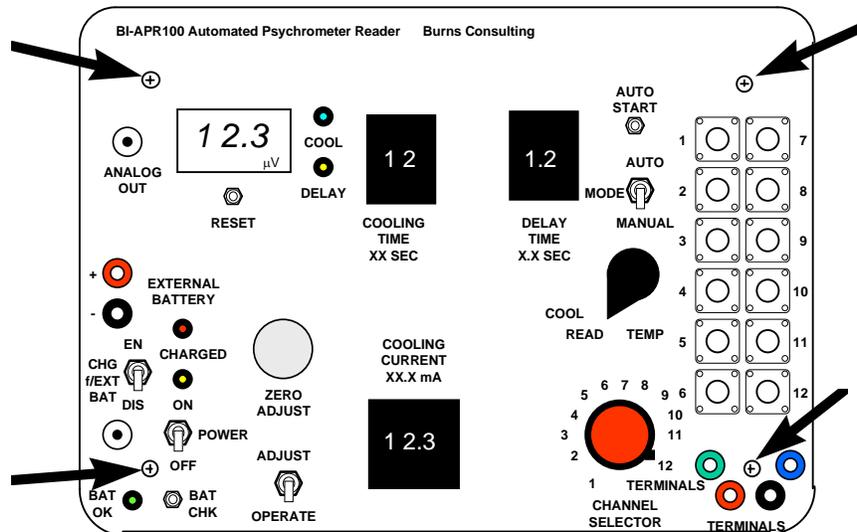

Figure VI.2 - Screws to be removed to access internal battery.
Remove the four 6-32 screws indicated by the arrows in Figure VI.2. Gently lift the panel from the box by holding on the **EXTERNAL BATTERY** terminals (8) and external channel **TERMINALS** (23).
The internal battery is held in place by a restraining bar held on by two wing nuts on two 1/4-20 shafts. Unscrew the wing nuts and remove the restraining bar. Disconnect the two wires (one **red**, the other **black**) from the battery. Lift battery out and remove. Replace restraining bar and wing nuts. Place panel back on box and replace the four 6-32 screws indicated by the arrows in Figure VI.2. Be careful not to pinch any wires between the panel and the box edges nor between the panel and the mounting posts. Doing so may cause shorts and damage the unit.
Remove the four 6-32 screws indicated by the arrows in Figure VI.2. Gently lift the panel from the box by holding on the **EXTERNAL BATTERY** terminals (8) and external channel terminals (23).
Place panel back on box and replace the four 6-32 screws indicated by the arrows in Figure VI.2. Be careful not to pinch any wires between the panel and the box edges nor between the panel and the mounting posts. Doing so may cause shorts and damage the unit.